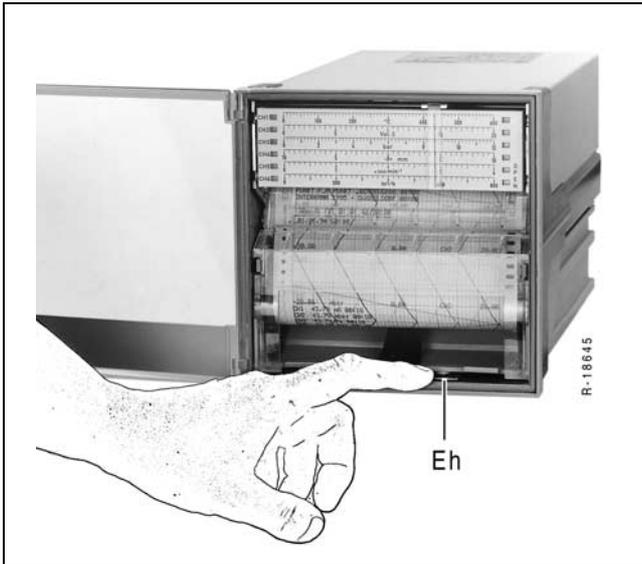

Fig. 1 Remove the chart unit
1. Press down pull-to-unlock lever *Eh* (see fig. 1). The chart unit swings out.